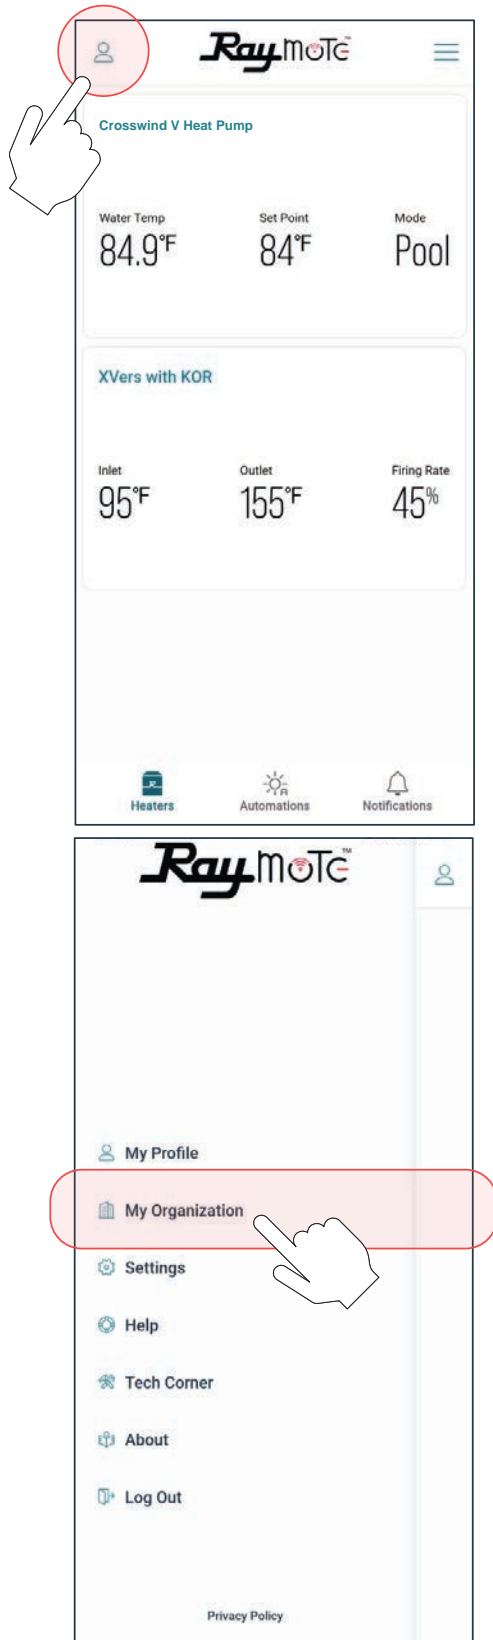

Figure 106. Select Organization Option
2. Click on the top-left "User menu". Then, select "My Organization" option. See Figure 106.